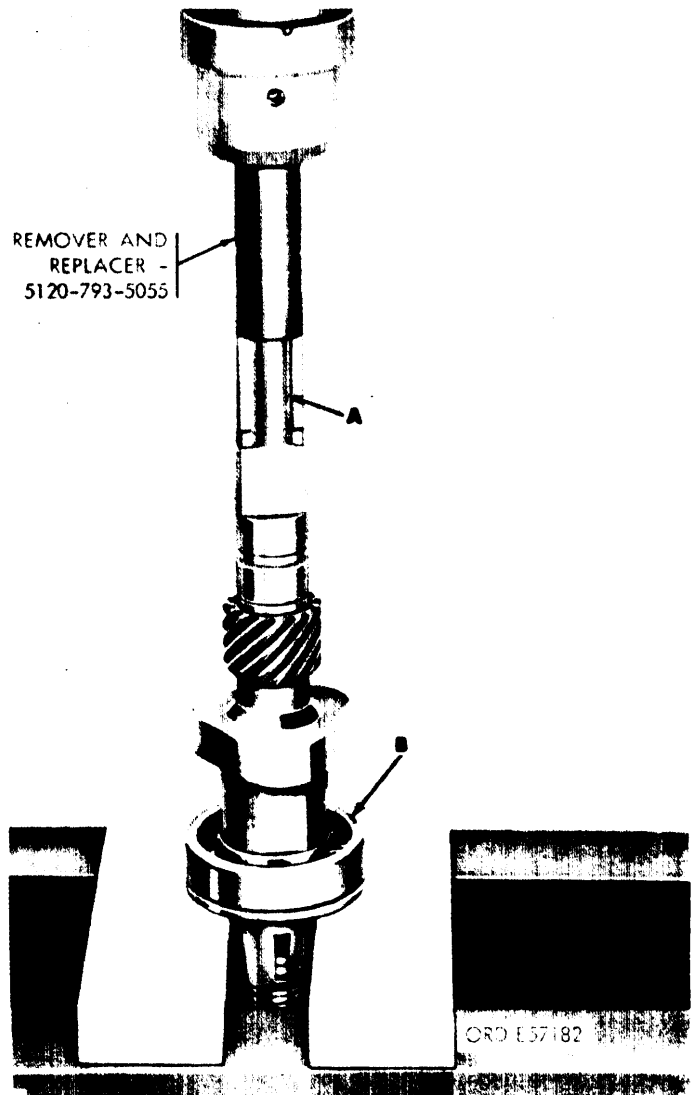

Figure 3-107. Installing camshaft ball bearing on camshaft using remover and replacer.
(1) Refer to figure 3-107. Position remover and replacer on camshaft (A) in an arbor press and install camshaft ball bearing (B) with retaining ring groove away from camshaft as shown.